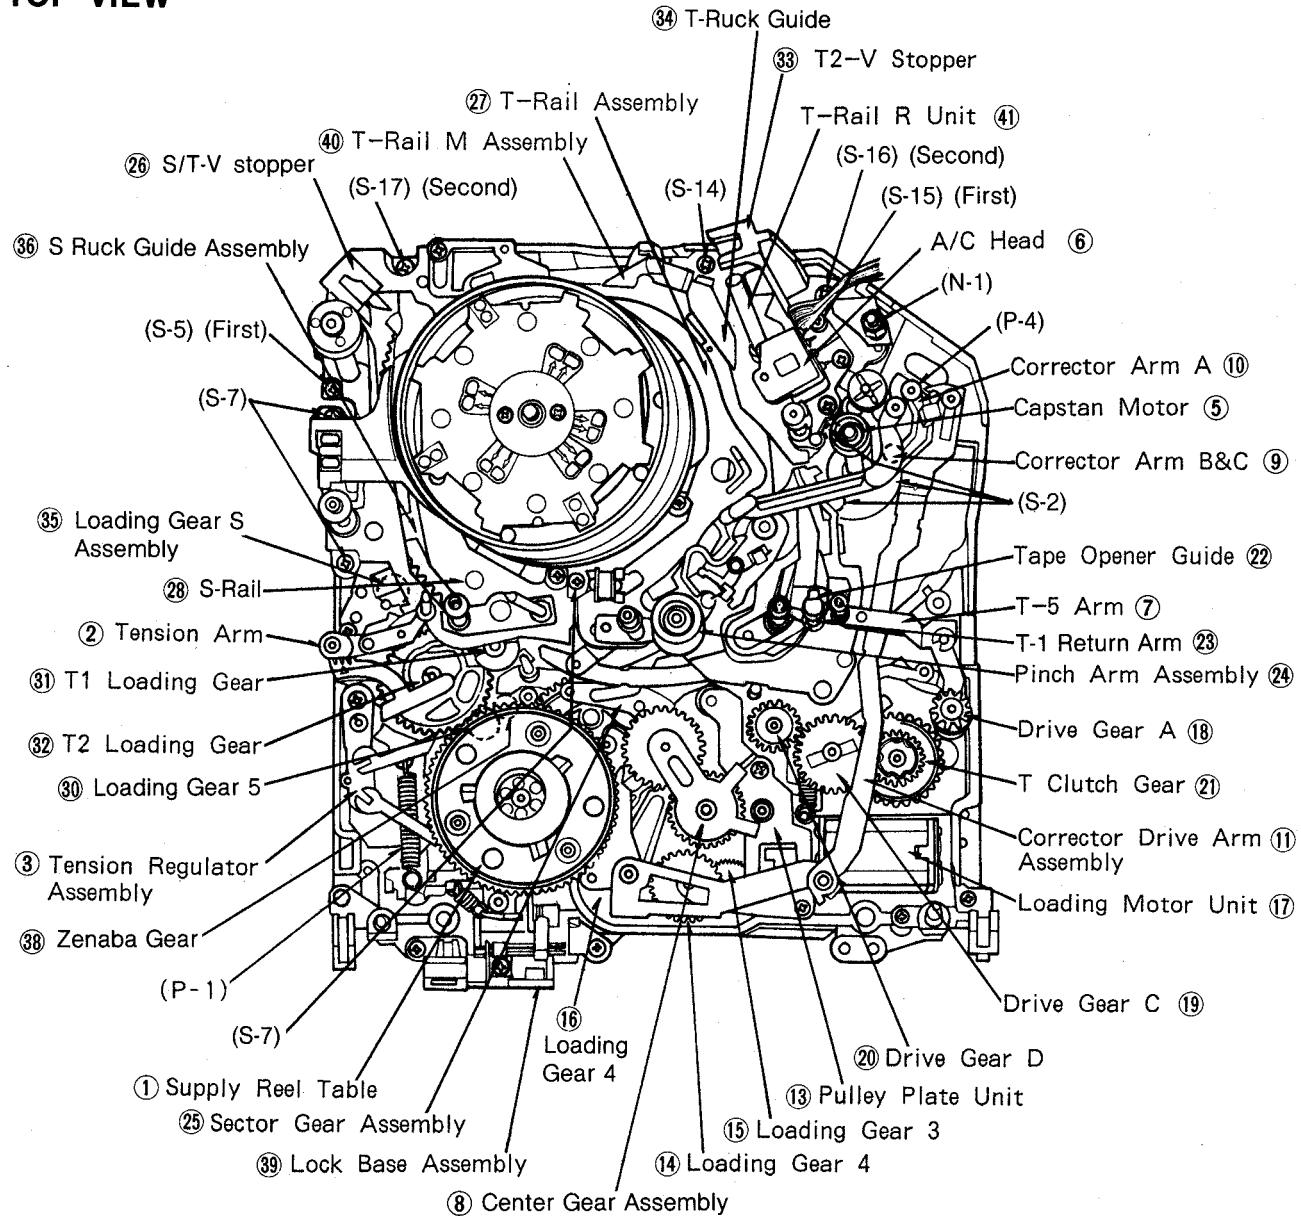

Fig. M1
10) Remove centre gear assembly. See Fig. M1 & 7.
- 28) Remove S/T-V stopper unit. See fig M1
- 36) Remove capstan drive motor. See fig. M1.
44) Remove T-rail M assembly. See fig. M1.
- 1) Reinstall T2-V stopper. Tighten screws as shown in fig M1.